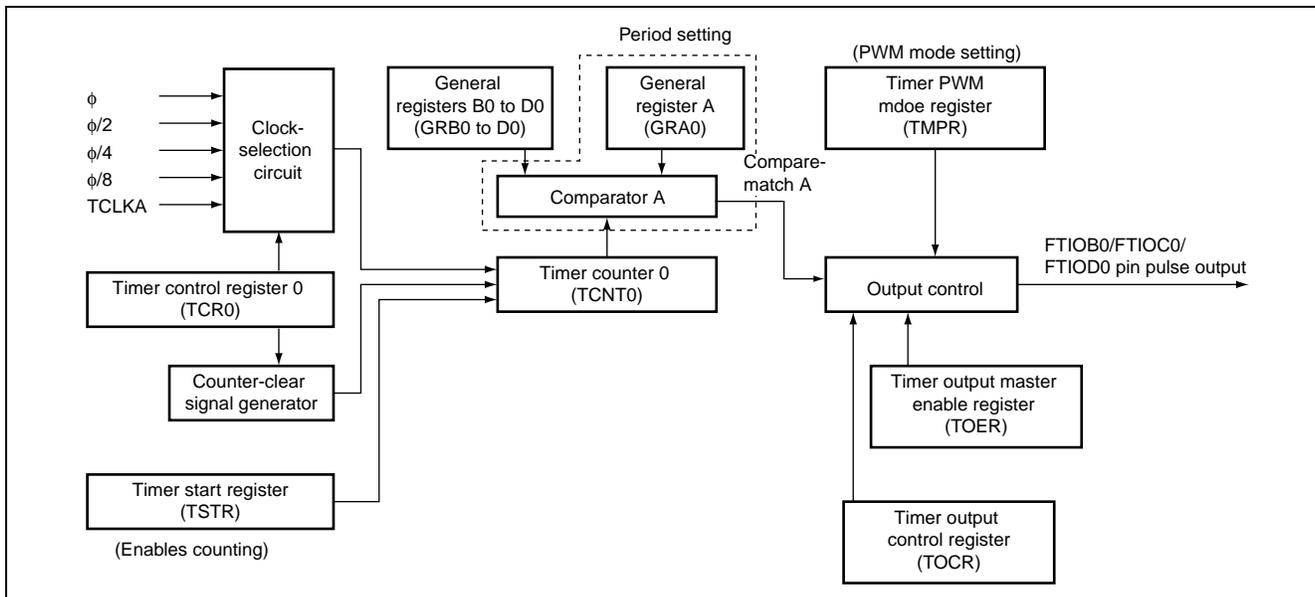

Figure 2.1 Timer Z Channel 0 Block Diagram
- 1) Figure 2.1 is a block diagram of timer Z, which is used in this sample task.